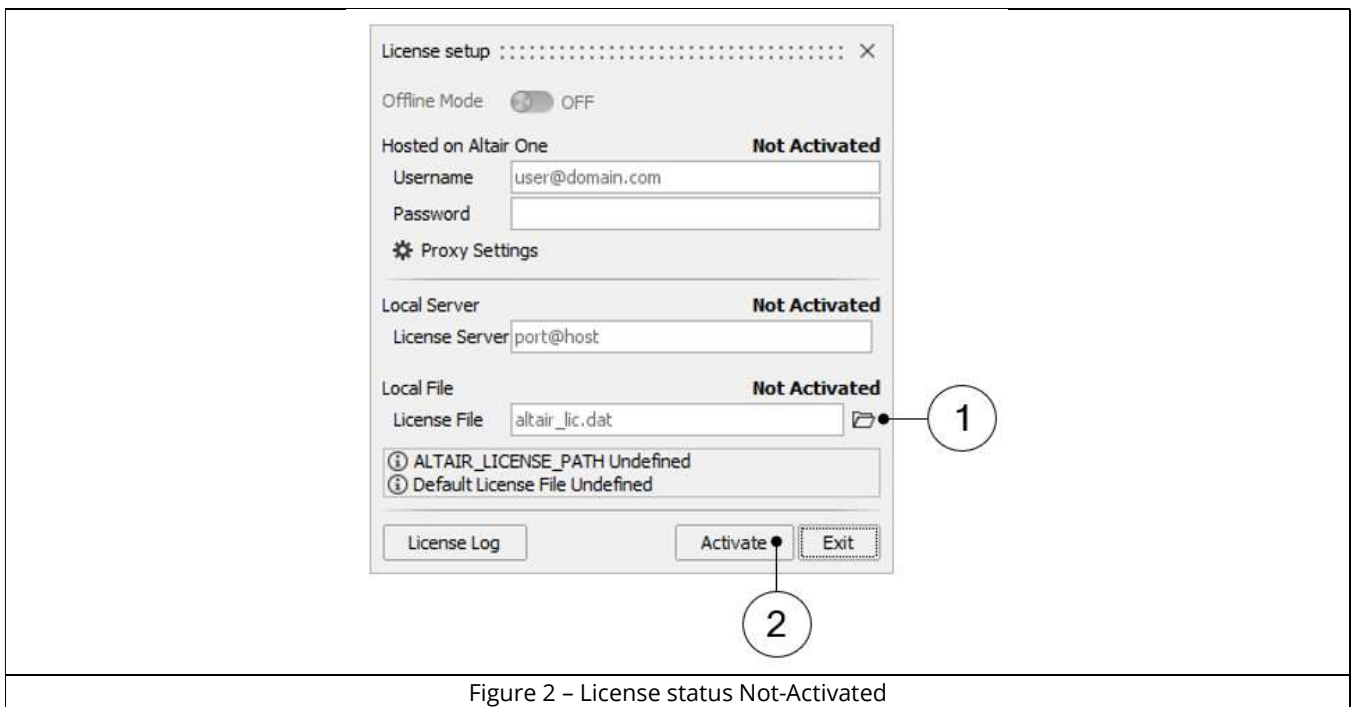

Figure 2 – License status Not-Activated
- 3) Click on the browser button (Mark 1 - Figure 2 – License status Not-Activated) and browse to the location of the License File.
- 4) Click on the Activate button (Mark 2 - Figure 2 – License status Not-Activated). The status will change to Activated when the license is validated, or you will receive an error message if unsuccessful.